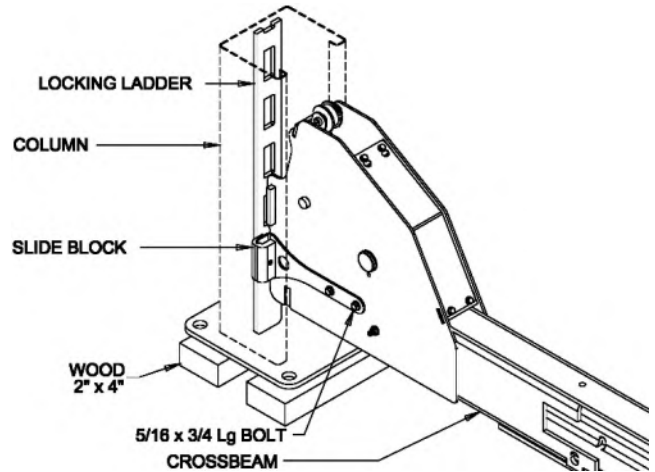

Fig 17 – Slide Block Installation
- 21) Slide power side column onto crossbeam until the end of the crossbeam is approximately one inch from the back of the column. Position slide blocks as shown in **Fig 17** and attach with 5/16-18 x 3/4" bolts. Lift the column and place on wood 2" x 4"s.